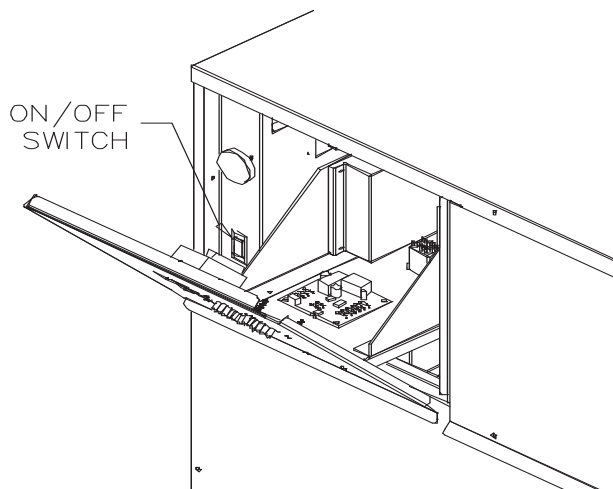

FIG. 44 ON/OFF Switch
5. Locate ON/OFF switch inside control area. Switch is located to the left of pull out control circuitry tray (see FIG. 44).